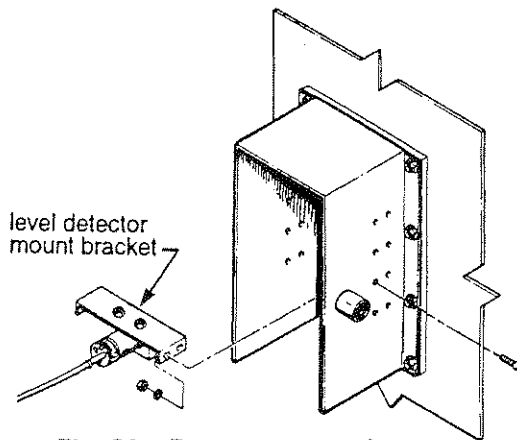

Fig. 53 Detector mountings
17. **LEVEL DETECTOR VERTICAL POSITION** Check that the level detector mount bracket is installed with the mounting flanges down, to the second from the bottom row of mounting holes (fig. 53).